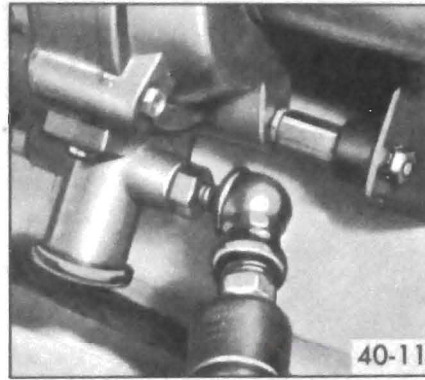

Figure 40-42 - Filling System Through Service Valve
valve to maximum available pressure. See Figure 40-42.
2. Inflate system through service valve to maximum available pressure. See Figure 40-42.